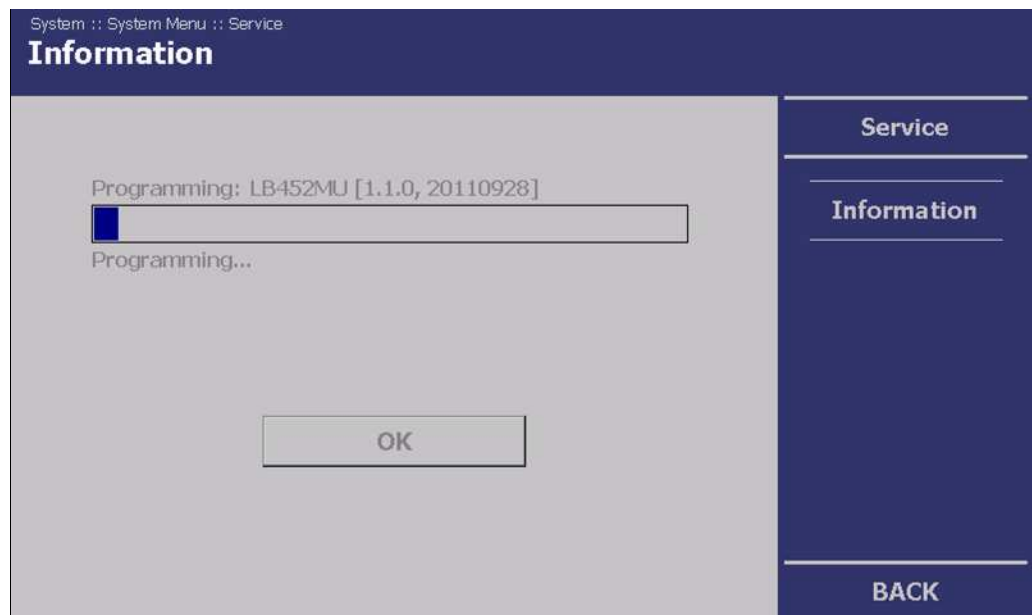

Fig. 45 System Menu, Service - Information (Measurement channels update)
- ⇒ The software update is carried out (Fig. 45).